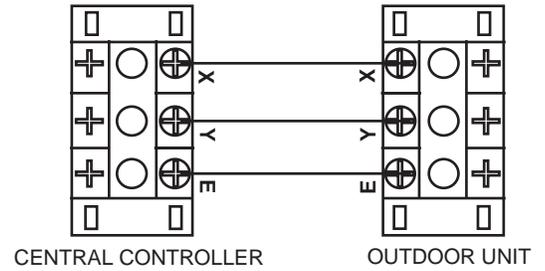

Fig. 5 — Controller Connections
- Control cable is polarity sensitive and MUST NOT be cross-connected. See Fig. 5 for correct connections.